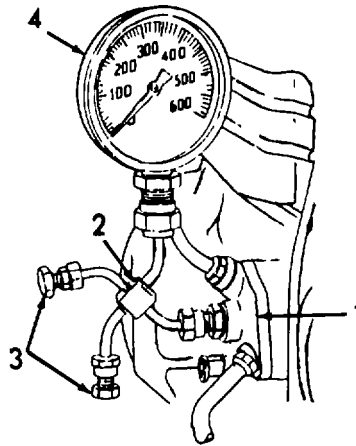

Figure 5-7. Fuel Injection Pump Testing.
- a. Test. (Refer to figure 5-7).